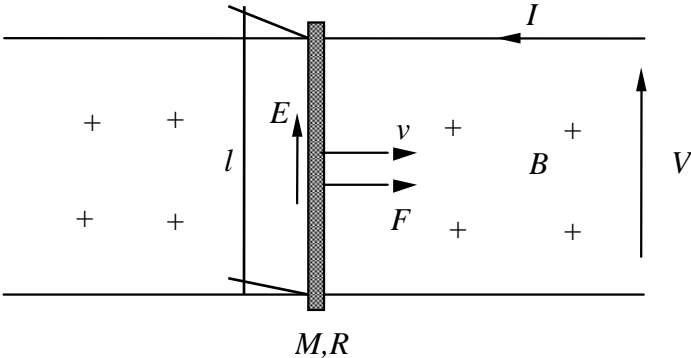

Figure 2-1: the primitive machine
- a uniform magnetic field B perpendicular to the conductor rails plane (in the Figure 2-1 it is directed into the page).
which, integrated over the length "l", in the case of Figure 2-1 becomes: